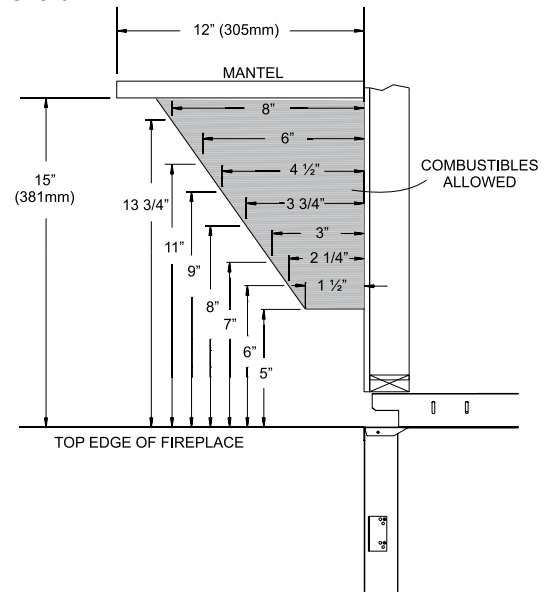

Figure 5
***Note A:** See Figure 5 for maximum mantel depth.
***Note B:** See Figure 5 for minimum height of mantel above unit.
Finish the walls with the material of your choice. **Figure 5** on page 10 shows the minimum vertical and corresponding maximum horizontal dimensions of mantels or other combustible projections above the top front edge of the fireplace.